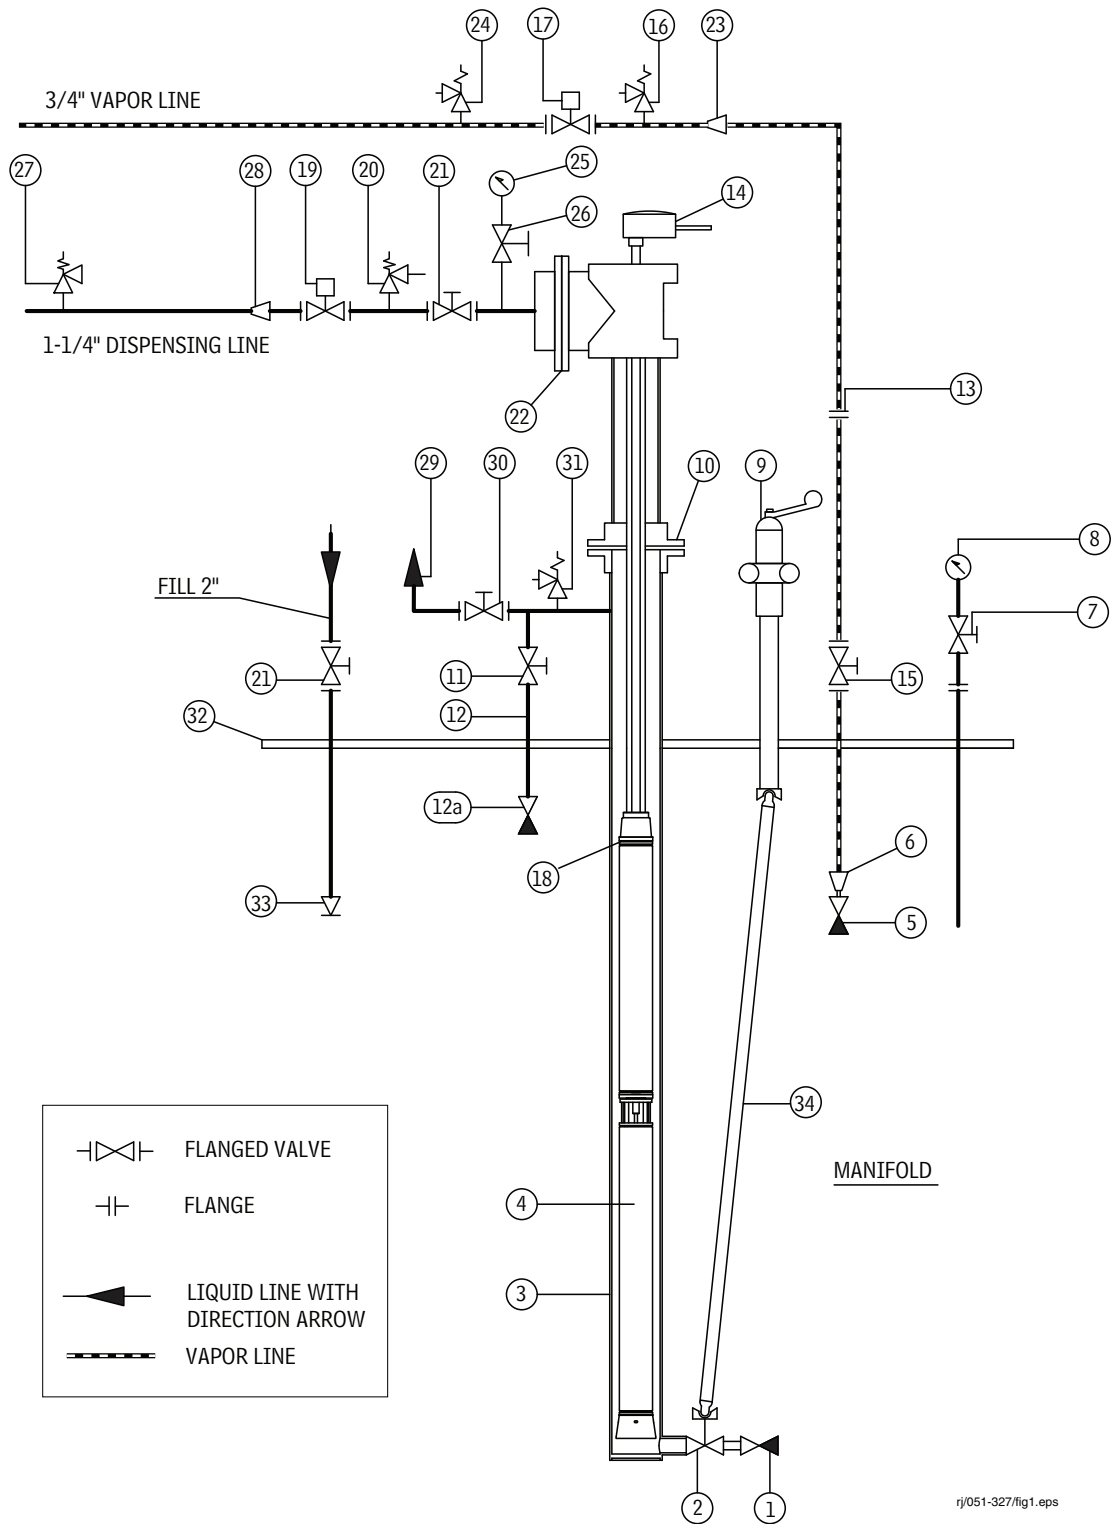

Figure 2. Vertical Manifold with Red Jacket LPG Pump-Motor Unit
A manifold is classified as an unfired pressure vessel, and is designed according to regulations for Pressure Vessels. The manifold must be suitable for the type of pump, to guarantee the above-described minimum requirements. Figure 2 illustrates a recommended vertical manifold for the Red Jacket LPG pump and Table 3 contains an itemized material list for the Figure 2 manifold.
**Table 3. Recommended Material List for Vertical Manifold with Red Jacket LPG Pump-Motor Unit (ref. Figure 2)**